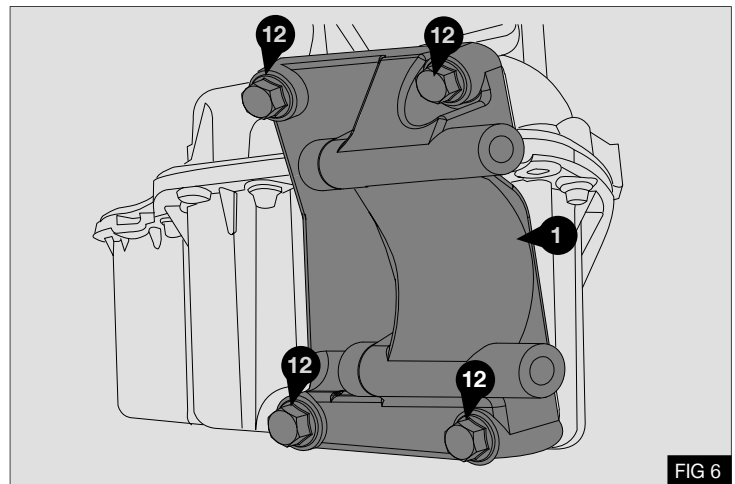

FIG 6
1. Install the mount bracket (1) to the engine using the supplied M8 x 60 bolts (12) – Fig 6
2. Torque bolts (12) to 25 Nm / 18.5 lb.ft using a calibrated torque wrench – Fig 6